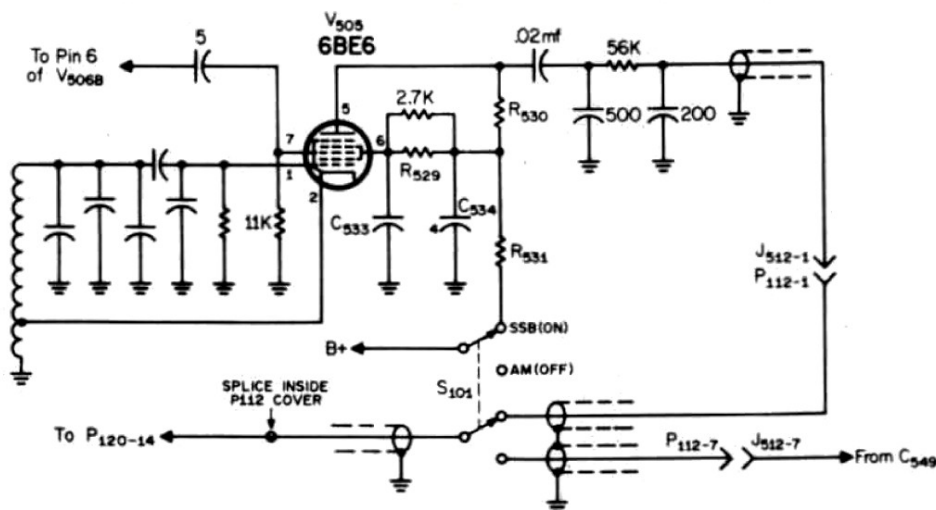

Fig. 1—Circuit of the product detector wired in place of the beat frequency oscillator. S_{101} is the new b.f.o. switch.
3. Take the new switch, a 2 pole two to six position unit, (only 2 of the 6 positions are used) for S_{101} , and connect these three shielded leads to it to form the audio change-over circuit. See fig. 1. Under the head of the machine screw holding one side of the switch wafer to the switch frame install a small soldering lug. Solder the pigtail to it, to ground (at this end only) the individual shield braids of the 3 audio wires.
4. Insert the free ends of the 3 wires through the opening at the edge of the i.f. shelf, pull them upward above the i.f. chassis, and mount the new switch in the vacant S_{101} hole in the front panel. Replace the knob. Connect the b.f.o. B+ wires to the other pole of the switch. The b.f.o. B+ is to be on in the B.F.O. ON position, which will become the SSB position of S_{101} . See the schematic in fig. 1.